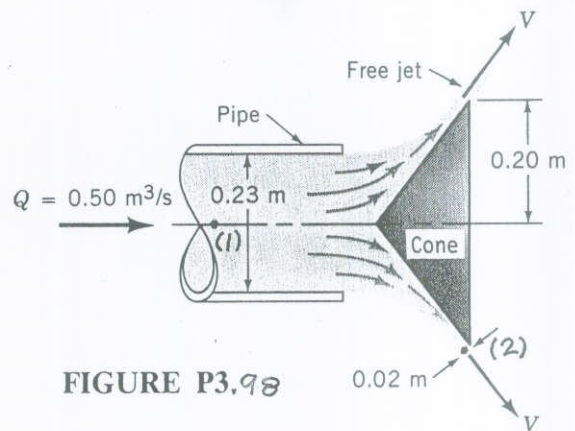

FIGURE P3.98
3.98 A conical plug is used to regulate the air flow from the pipe shown in Fig. P3.98. The air leaves the edge of the cone with a uniform thickness of 0.02 m. If viscous effects are negligible and the flowrate is  $0.50 \text{ m}^3/\text{s}$ , determine the pressure within the pipe.